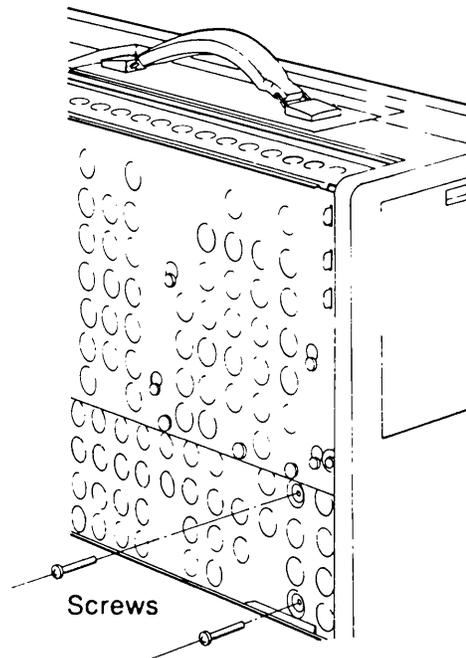

Figure 11-16. Removing the Bottom "B" Diskette Drive Mounting Screws.
15. Place the computer so that the screen is facing down (towards the workbench). Remove the bottom "B" diskette drive mounting screws (see Figure 11-16).